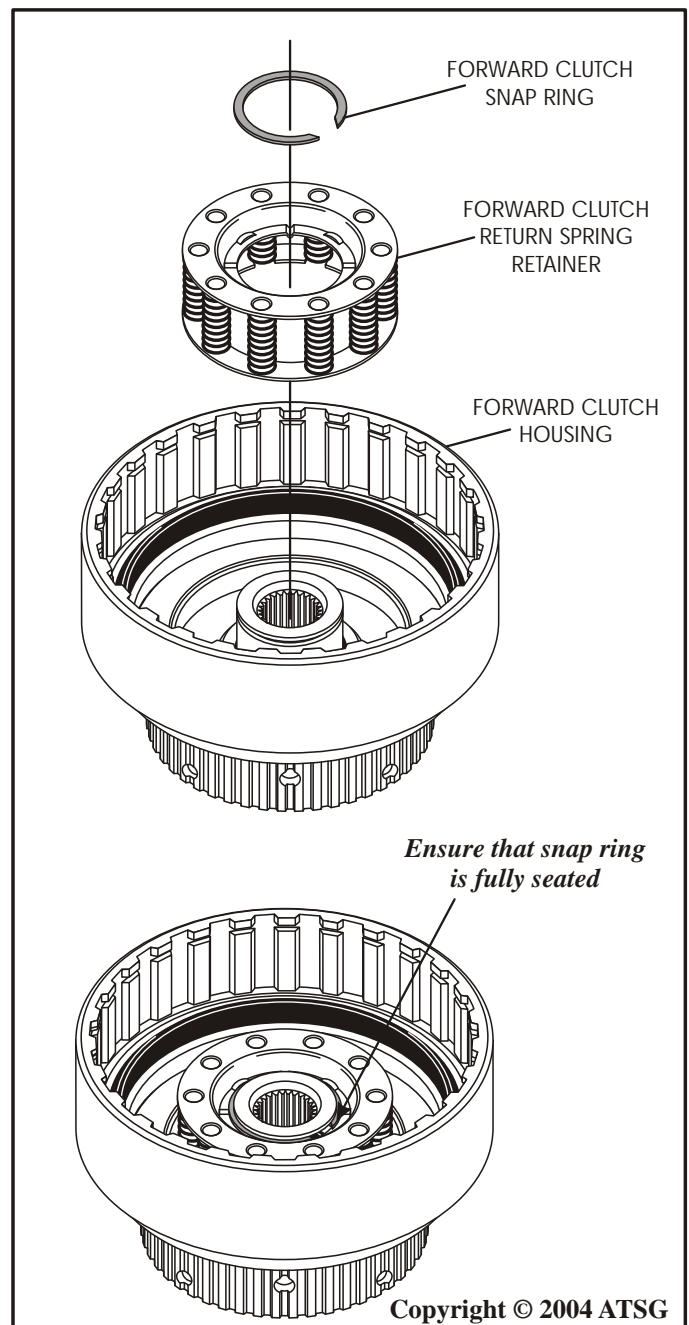

Figure 88
8. Install the return spring retainer assembly on top of the piston, as shown in Figure 88.
9. Compress the return springs and retainer and install the spring retainer snap ring, as shown in Figure 88, and ensure snap ring is seated.